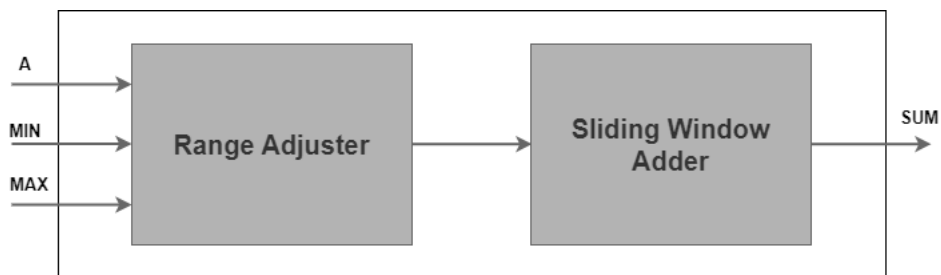

Figure 3: The block design of the module to be implemented
- The block design of the module is shown in Figure 3.